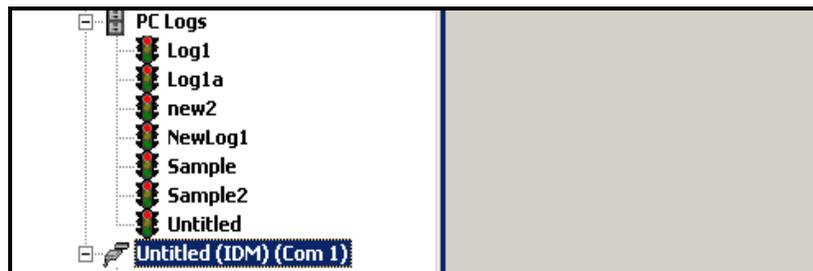

Figure 3-13: The Expanded PC Logs Option
- From the *New Meter Browser* in PanaView, expand the network tree and click on the *PC Logs* option. If you have created one or more logs, the tree will appear similar to Figure 3-13 below. Double-click on the log name to open the log.
Notice that each of the log files in Figures 3-13 and 3-14 above has a traffic light icon next to its name. These icons indicate the current status of the log as follows: